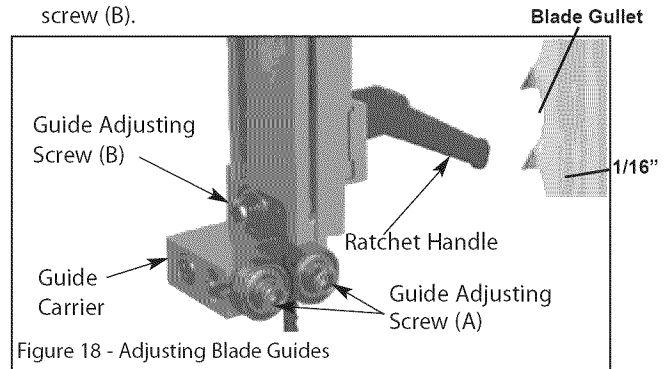

Figure 18 - Adjusting Blade Guides
See Figure 18.
- To adjust the upper blade guides, first position the right and left roller guides relative to the blade by slackening the ratchet handle (Figure 18) and moving the guide carrier until both roller guides are approximately  $\frac{1}{16}$ " behind the gullets of the saw blade.
- Set both roller guides to within  $\frac{1}{32}$ " of the saw blade by releasing the guide adjusting screw (A) on each side of the saw blade. Do not set the roller guides too close as this will adversely affect the life of the saw blade.
- Adjust the rear roller guide to be just clear of the back of the saw blade by unlocking the guide adjusting screw (B).
- When the correct adjustment is reached, lock the rear roller guide in position with the guide adjusting screw (B).
- To adjust the lower blade guides, first position the right and left roller guides relative to the blade by slackening the lock nut and moving the guide carrier until both roller guides are approximately  $\frac{1}{16}$ " behind the gullets of the saw blade. (See Figure 18)
- Set both roller guides to within  $\frac{1}{32}$ " of the saw blade by releasing the guide adjusting screw (C) on each side of the saw blade. Do not set the roller guides too close as this will adversely affect the life of the saw blade.
- Adjust the rear roller guide to be just clear of the back of the saw blade by unlocking the guide adjusting screw (D).
- When the correct adjustment is reached, lock the rear roller guide in position with the guide adjusting screw (D).